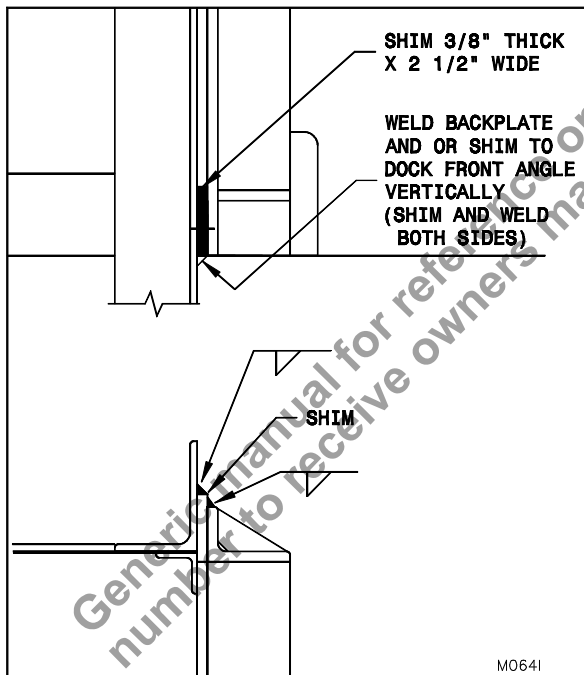

Figure 14: Back Plate is Lower Than Dock Front Angle
- m) If the back plate of the restraint is lower than the top of the front angle of the dock leveler, shim between the top angle of the back plate and the front angle of the dock leveler and weld the shim to both as shown in "Figure 14: Back Plate is Lower Than Dock Front Angle" on page 19.